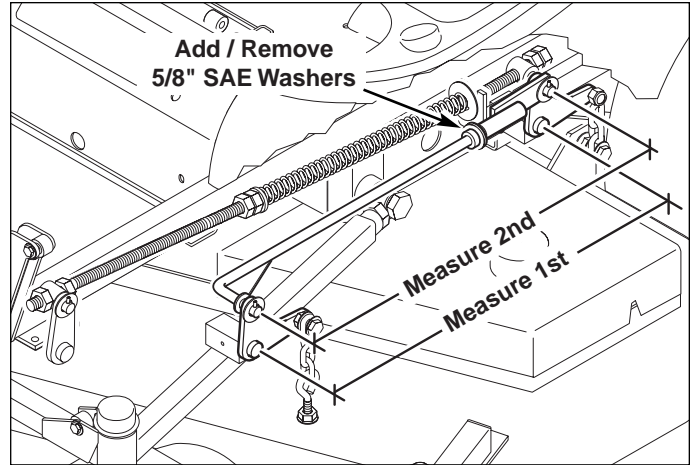

Figure 46. Lift Rod Adjustment
5. See Figure 46. Measure the distance between the rear lift pivots and the suspension-mounted lift pivots. Add or remove 5/8" SAE washers from in between the deck lift rod and the lift link until measurements are equal.